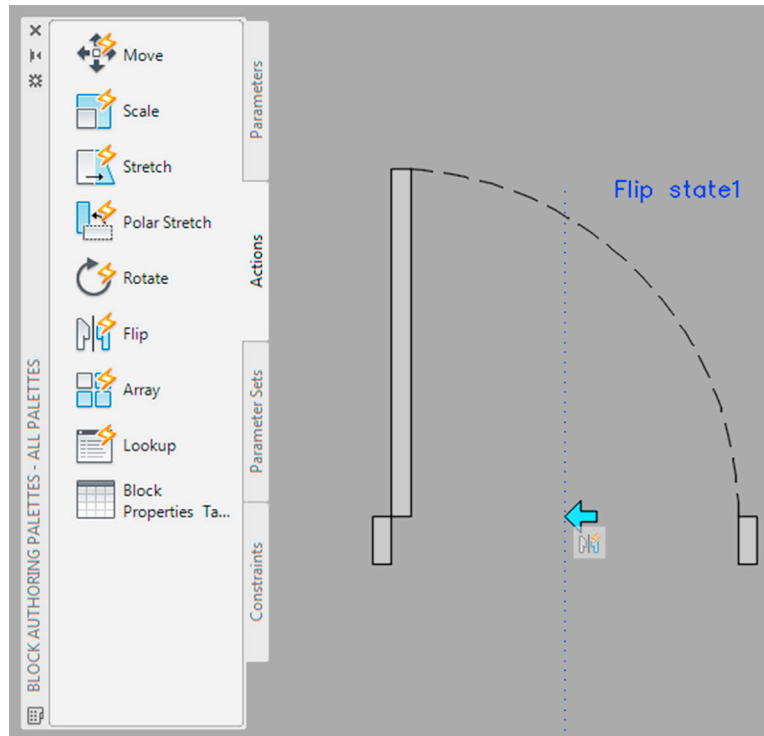

FIGURE 7.17 Flip parameter and action.
- Step 3.** Add the flip action by selecting the icon, then the parameter, then all the objects. Fig. 7.17 shows what you should have on your screen. You can go ahead and erase the horizontal guide line at this point.